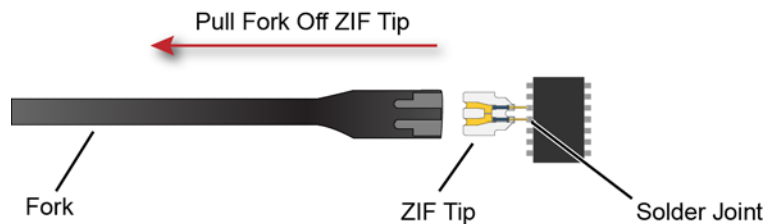

Figure 28 Removing the Handle from the ZIF Tip
- 6 Pull the ZIF handle from the ZIF tip in the direction shown in **Figure 28**. ZIF tips can be carefully handled with your fingertips and reinserted into a plastic handle if necessary.